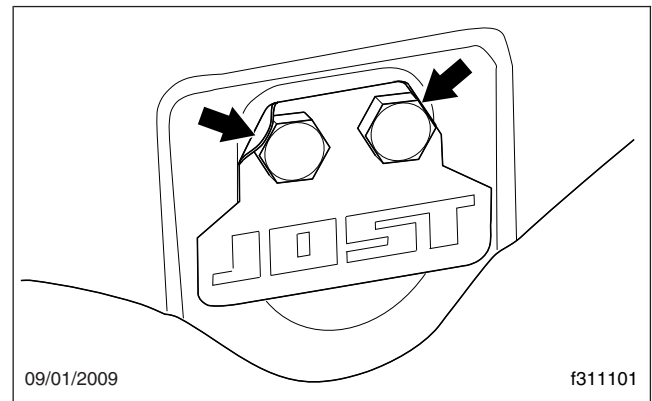

Fig. 8, Bracket Pin Bolt Locking Tabs
4. Inspect the bracket pin bolts. Make sure the locking tabs are properly securing the bolts in place. See **Fig. 8**.